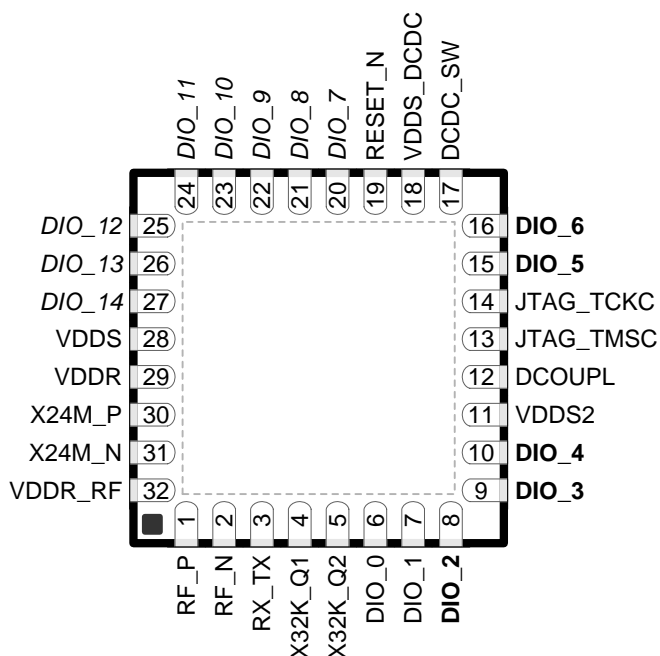

Figure 4-2. RHB (5-mm x 5-mm) Pinout, 0.5-mm Pitch
<ul style="list-style-type: none"> <li>Added 32KB and 64KB to the Features bullet for in-system programmable flash ..... <a href="#">1</a></li> <li>Changed to the correct pin count in the Features bullet RoHS-Compliant Package ..... <a href="#">1</a></li> <li>Changed CC1310 Block Diagram ..... <a href="#">3</a></li> <li>Changed <a href="#">Figure 4-2</a>, corrected typo in pin name..... <a href="#">9</a></li> <li>Changed the table note in <a href="#">Absolute Maximum Ratings</a> from: VDD5 to: ground..... <a href="#">14</a></li> <li>Changed ESD ratings for all pins in <a href="#">ESD Ratings</a> ..... <a href="#">14</a></li> <li>Added OOK modulation power consumption to <a href="#">Section 5.4</a> ..... <a href="#">15</a></li> <li>Added OOK modulation sensitivity to <a href="#">Section 5.6</a> ..... <a href="#">16</a></li> <li>Added receive parameters for 431-MHz to 527-MHz band in <a href="#">Receive (RX) Parameters, 431 MHz to 527 MHz</a> ..... <a href="#">17</a></li> <li>Added transmit parameters for 431-MHz to 527-MHz band in <a href="#">Transmit (TX) Parameters, 431 MHz to 527 MHz</a>..... <a href="#">19</a></li> <li>Changed ADC reference voltage to correct value in <a href="#">ADC Characteristics</a> ..... <a href="#">21</a></li> <li>Added thermal characteristics for RHB and RSM packages ..... <a href="#">24</a></li> <li>Changed <a href="#">Figure 5-5</a> by extending the temperature..... <a href="#">28</a></li> <li>Changed BOD restriction footnote in <a href="#">Table 6-2</a>—restriction does not apply to die revision B and later..... <a href="#">36</a></li> <li>Added <a href="#">Voltage Supply Domains</a> ..... <a href="#">38</a></li> <li>Changed Device Nomenclature image ..... <a href="#">41</a></li> </ul>
Figure 4-2 shows the RHB pinout diagram.
I/O pins marked in Figure 4-2 in **bold** have high-drive capabilities; they are as follows:
I/O pins marked in Figure 4-2 in *italics* have analog capabilities; they are as follows: